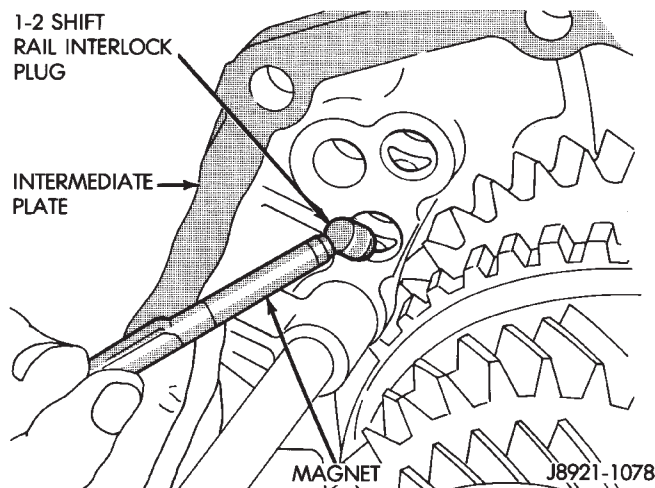

Fig. 76 Remove 1-2 Shift Rail Interlock Plug
(28) Remove the 1-2 shift rail interlock plug from the intermediate plate (Fig. 76).